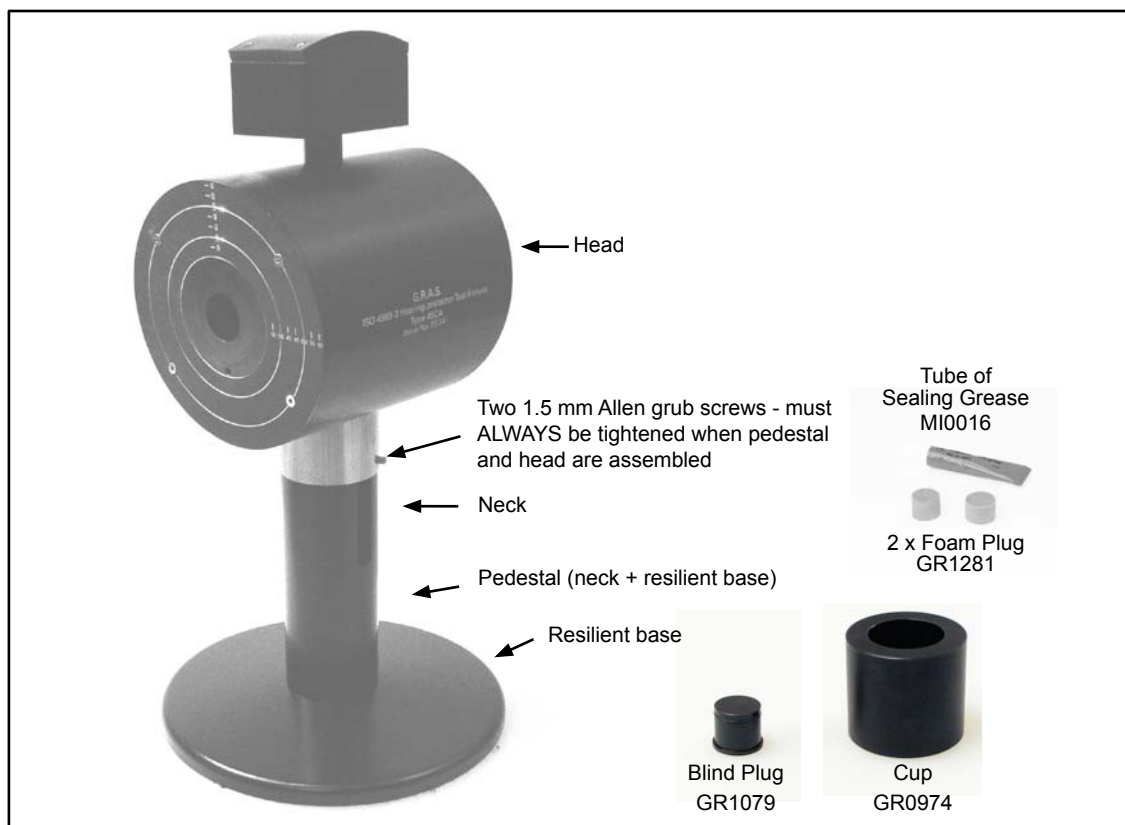

Fig. 1.1 Assembled test fixture Type 45CA including Acoustic Plug and Acoustic Cup.
The G.R.A.S. Hearing-Protector Test Fixture Type 45CA (Fig. 1.1) is for testing
- The test fixture, mounted on a resilient base (Fig. 1.1) that reduces the noise floor to a minimum in a typical test situation. Foam plugs and grease (Fig. 1.1) are supplied to avoid sound leakage along the cable.
- An acoustic cup and plug for testing the acoustic isolation (Fig. 1.1).
When assembling head and pedestal, always make sure to tighten both of the 1.5 mm Allen grub screws in the steel tube as indicated in Fig. 1.1.